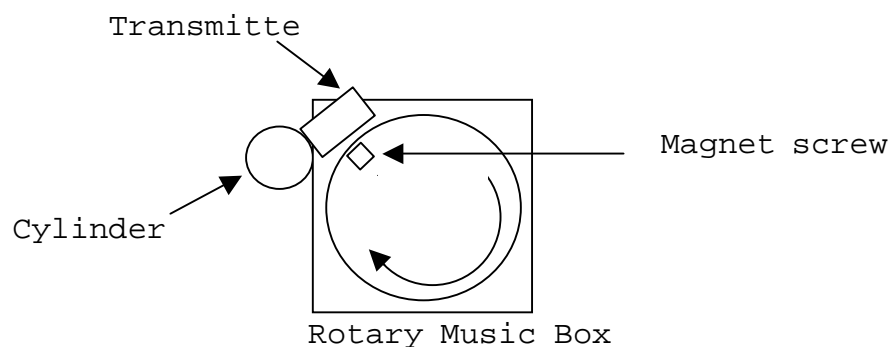

Fig.1 Top view
1. The transmitter mounted on the cylinder and the magnet screw mounted on rotary music box(simulator tool) as following figure 1.